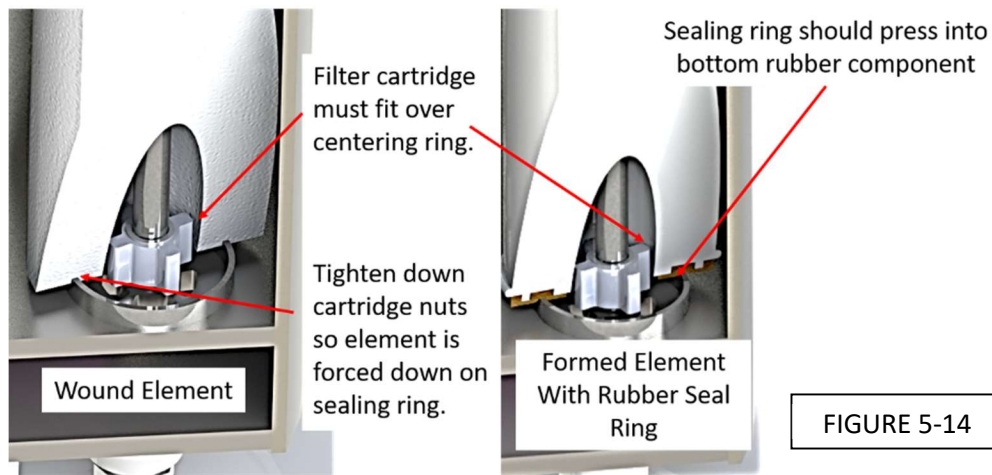

FIGURE 5-14
- iv. Install new filter elements. Make certain that the bottom of the cartridge is over the centering cross. If the cartridge has a rubber element on each end make certain that it remains in position as you lower the element over the tie rod. See Figure 5-14